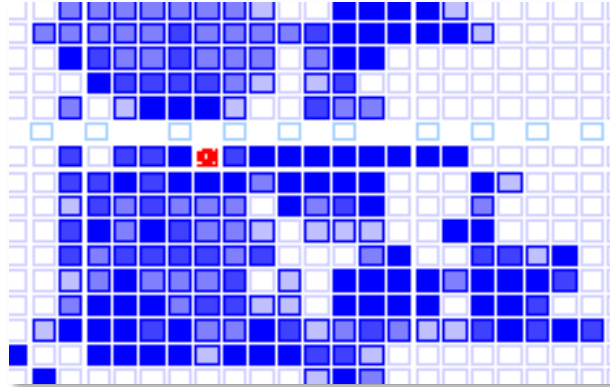

Figure 3.33. Selected Component in the Placement Mode
1. Click on a component in the Placement Mode as shown in Figure 3.33.